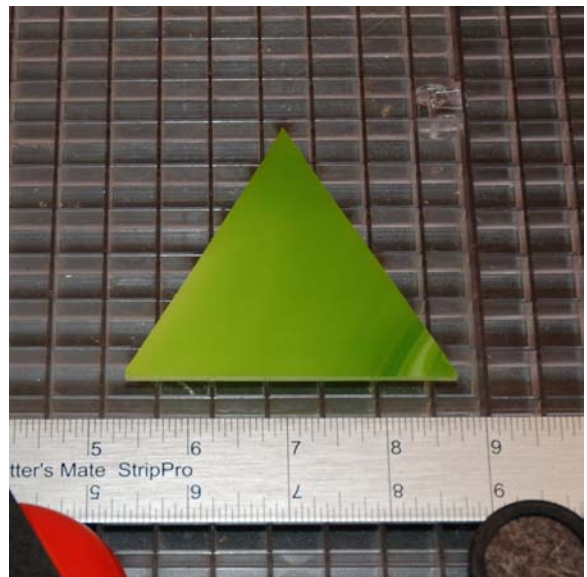

figure 4
4. The result will be an equal sided triangle. (figure 4)